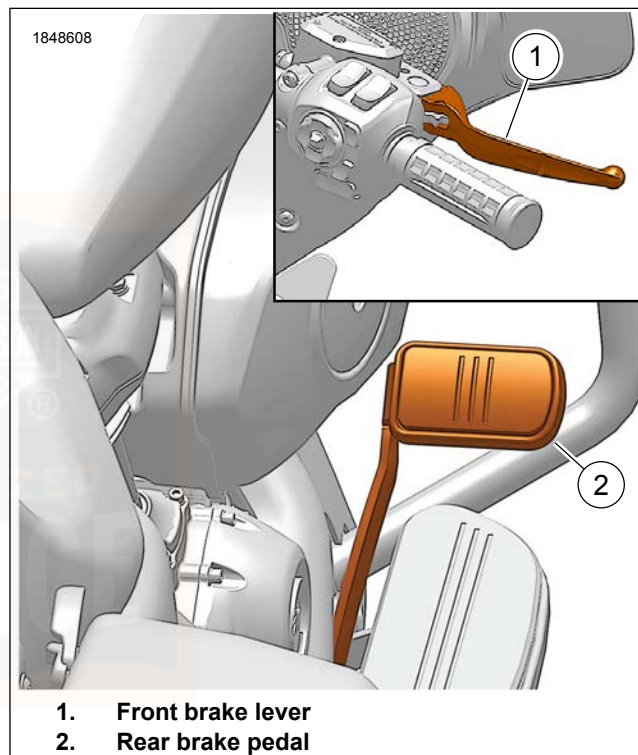

Figure 54. Brake Controls
See Figure 54. The front brake hand lever (1) controls the front wheel brake. The lever is on the right handlebar. Operate the hand lever with the fingers of the right hand.
See Figure 54. The rear brake pedal (2) controls the rear wheel brake. The pedal is on the right side. Operate the rear brake pedal with the right foot.